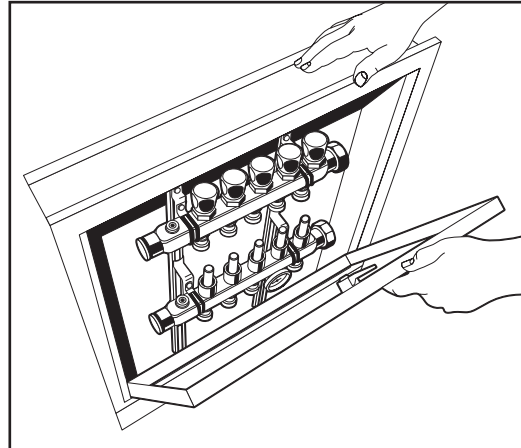

Figure 4
2. Insert the bottom of the door into the bottom of the door frame. See Figure 4